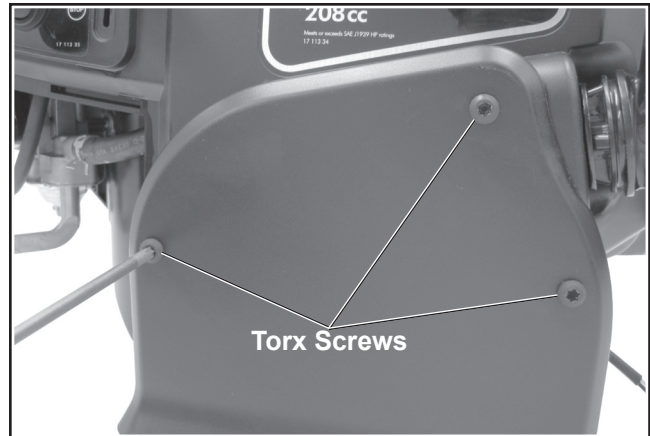

Figure 6. Remove Cover Torx Screws.
1. Remove the Torx screws securing the retractable starter cover, and remove the cover. See Figure 6.